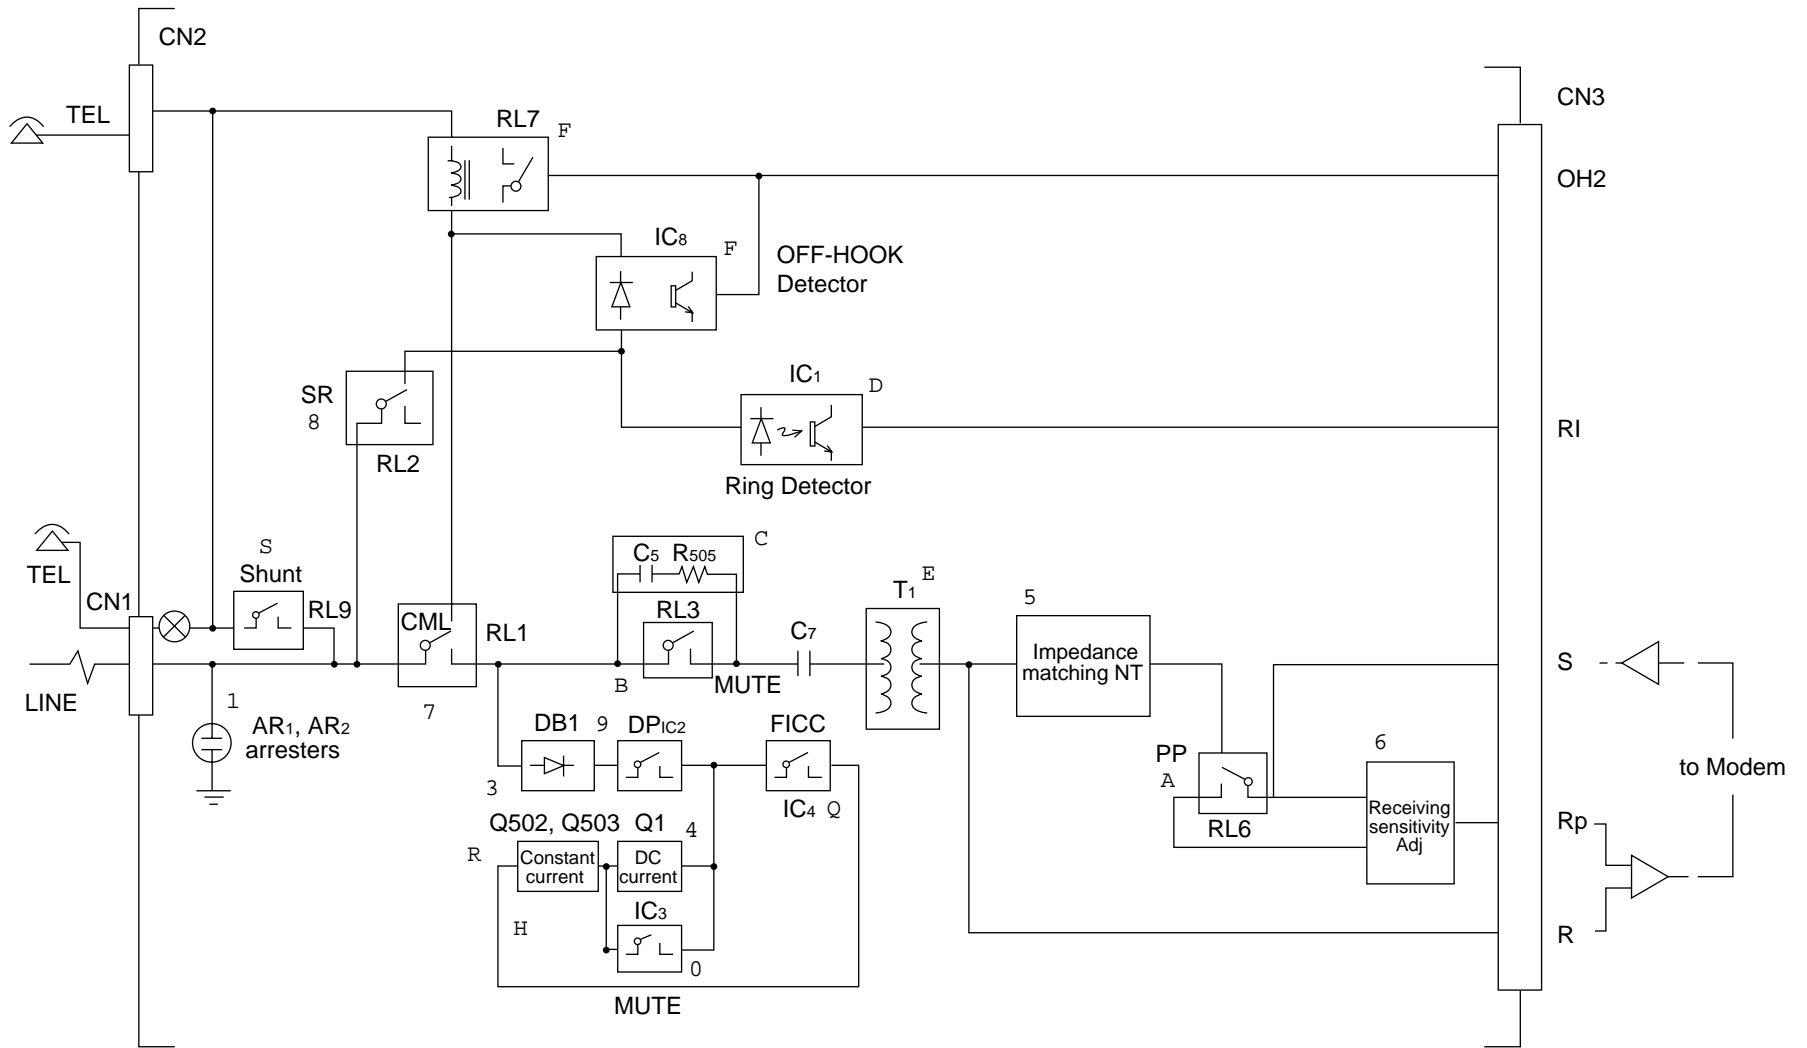

Figure 3.23 Block Diagram of EN9
- Figure 3.23 shows a block diagram of EN9 circuit.